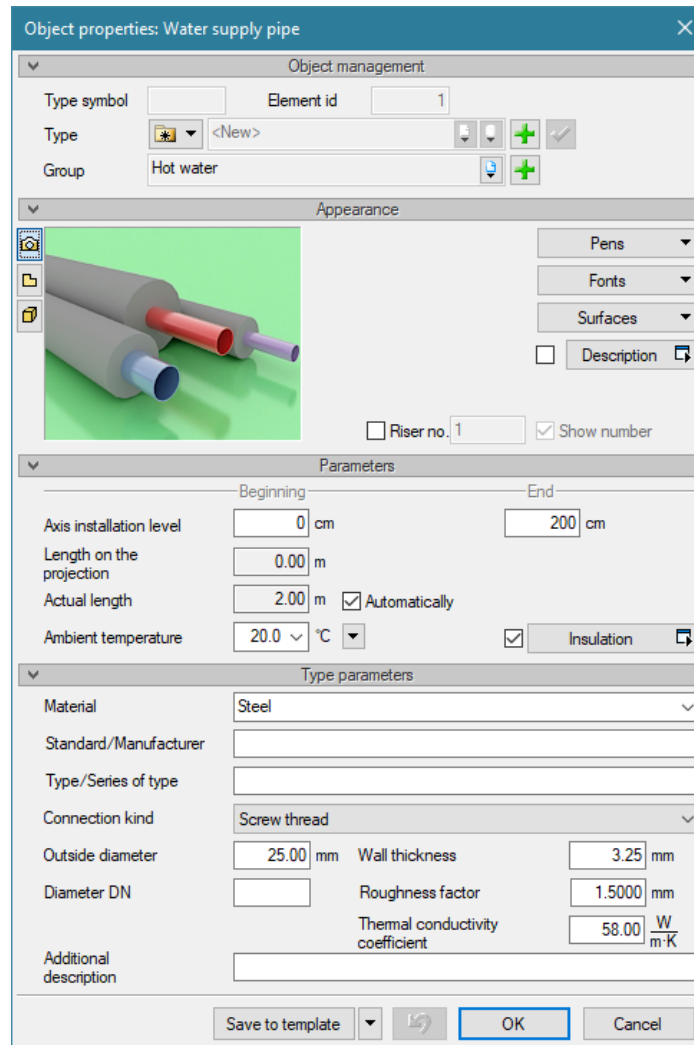

Fig. 80. Vertical water supply pipe properties window
**Leading** – in this column the user ticks the checkbox next to the pipeline that will be the leading pipeline during the insertion of parallel pipes. The pipeline that was selected as the leading one will determine the insertion point and other pipelines will be inserted in the appropriate offset from it. In Fig. 80 shows the insertion of parallel hot and cold water pipes with the leading pipe being the cold water pipe. The insertion location and the cross marking indicating the leading pipeline and the button shown in the insertion window, where the hot water pipeline is selected, are marked in the green circle.